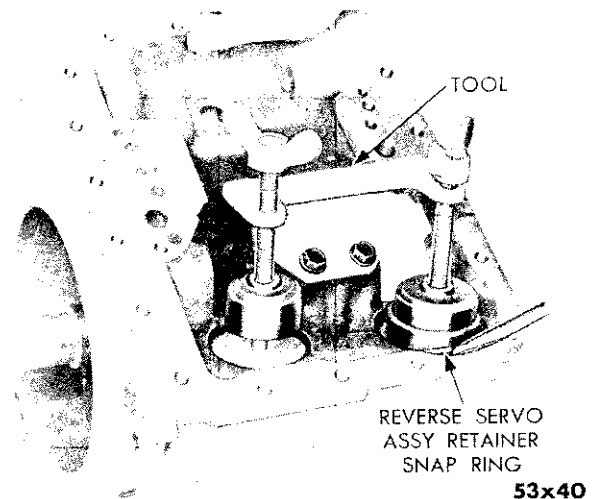

Fig. 33—Removal and Installation of Reverse Servo
(1) Install compressor, Tool C-3289 or C-3529, on transmission case (use oil pan screws) and compress reverse servo piston spring retainer.
(2) Using a screwdriver, remove the reverse servo piston spring retainer snap ring, as shown in Figure 33. Loosen compressing portion of tool. Spring re-